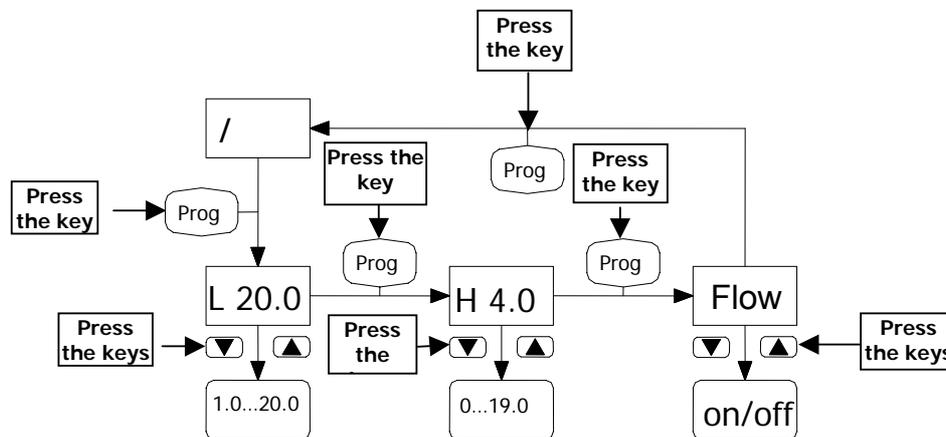

Fig. 28: 20..4/0 Inverse Current Mode Menu
- **Selecting the Lower Limit (see Fig. 28)**
– **Selecting the Lower Limit (see Fig. 28)**
– **Flow Control Function (see Fig. 28)**